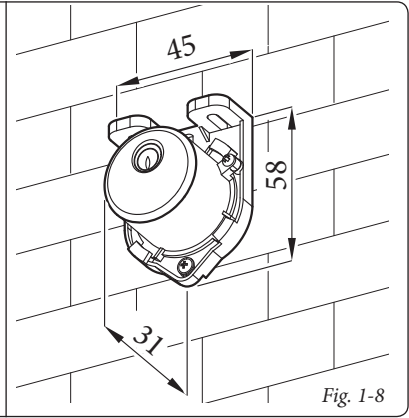

Fig. 1-8
• External temperature probe (Fig. 1-8). The probe can be connected directly to the boiler electrical system and allows the max. system flow temperature to be automatically decreased when the external temperature increases, in order to adjust the heat supplied to the system according to the change in external temperature. The external probe always operates when connected, regardless of the presence or type of heat adjuster used and can work in combination with both heat adjusters. The electric connection of the external probe must take place on clamps G and J on the X86 connection of the boiler. (Fig. 1-4).